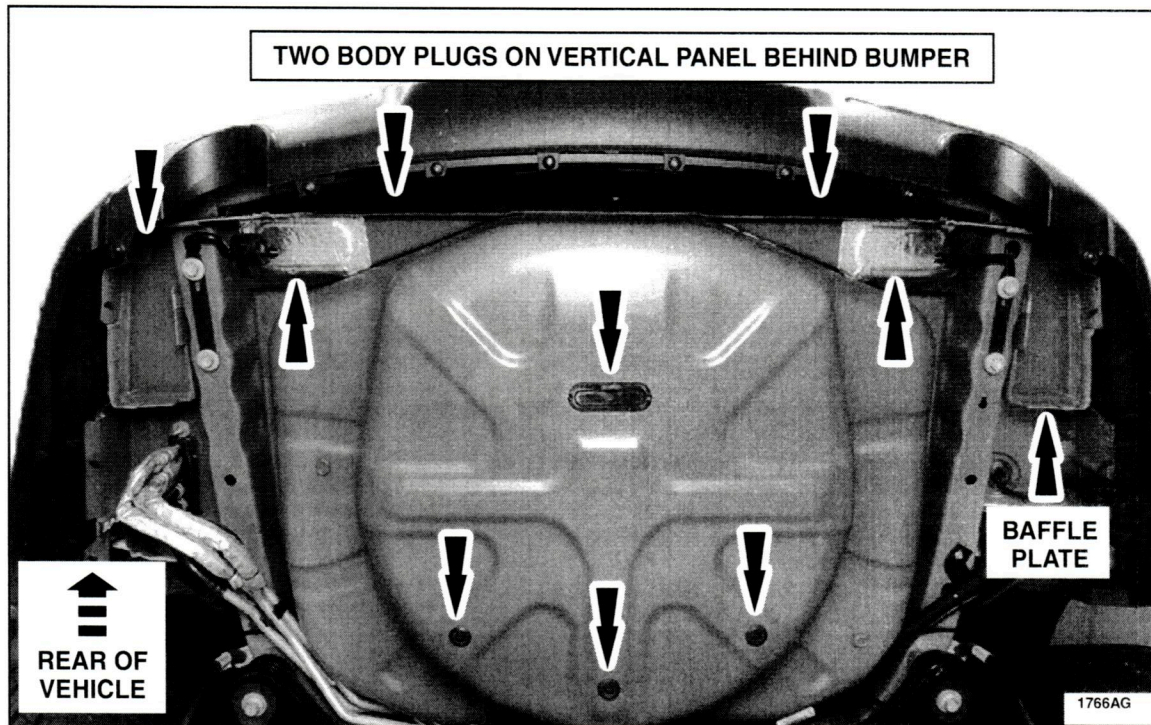

FIGURE 1
2. Inspect the rear underbody for damaged or missing body plugs. Replace damaged or missing body plugs as needed. See Figure 1.
3. Clean the two (2) rectangular-shaped body plugs located near the RH and LH muffler hangers as well as the surrounding sheet metal and apply the mastic patches to the underbody plugs as shown in Figure 1.